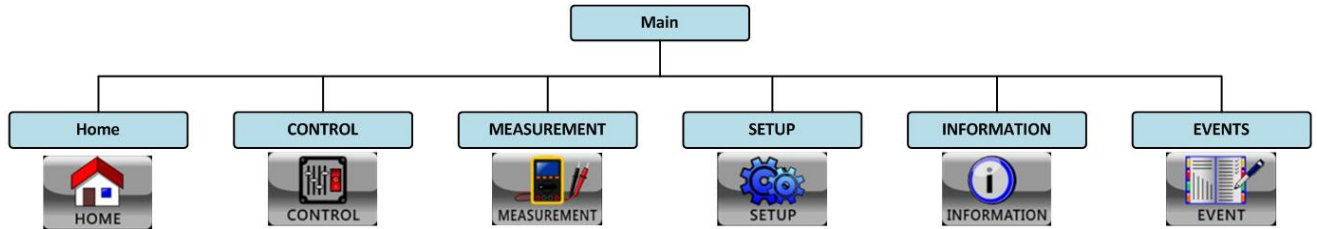

Figure 3-4 Menu Tree
(1) UPS operation mode: It shows UPS current operation mode and status.
(2) UPS flow chart: It shows current flow chart and measurement data.
(3) Main menu: Touch each icon to enter submenu. Refer to Figure 3-4 for menu tree.